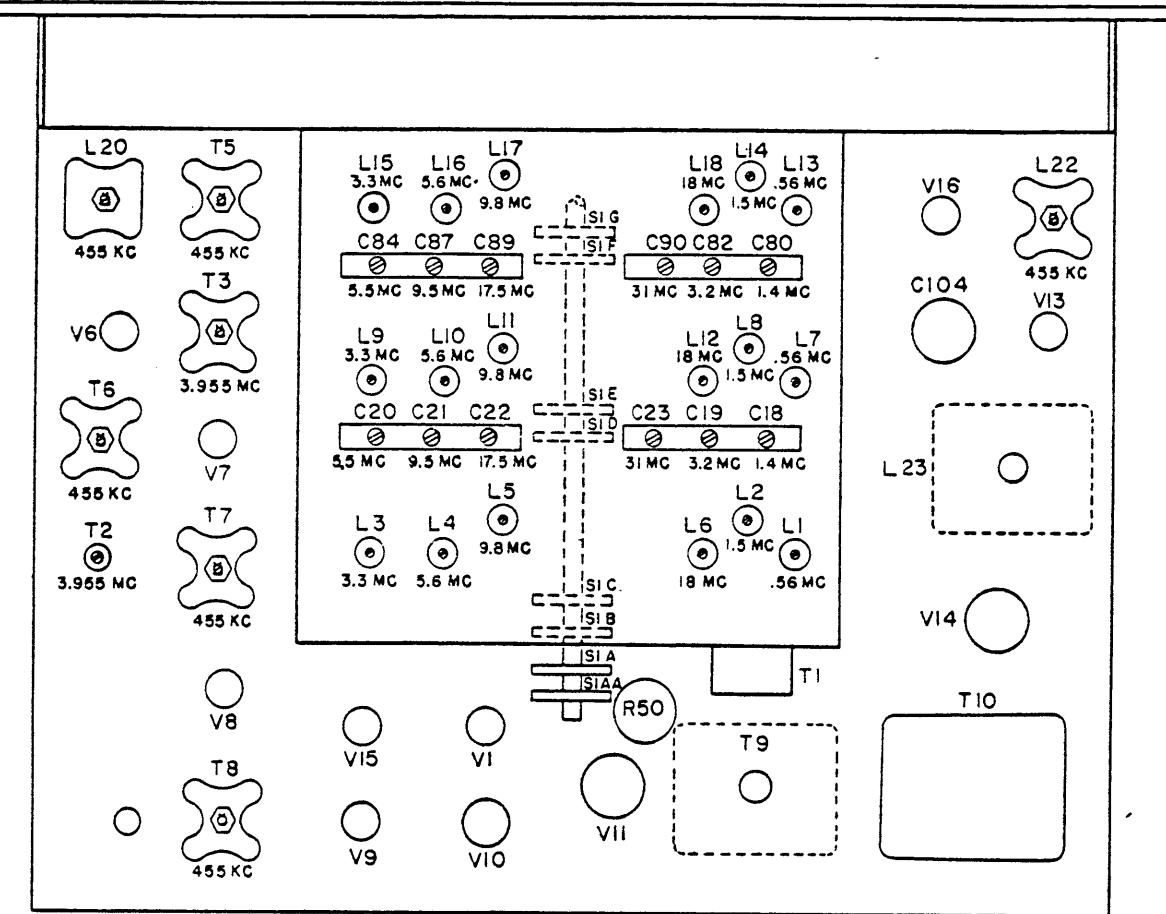

Figure 4-4. Receiver Chassis, Bottom View
- c. Plug headphones into PHONES jack and adjust coil L22 (Figure 4-4) for zero beat.
4-20 In aligning the r-f section of the receiver, the lowest frequency band is aligned first, followed by the next higher band, and so forth. The location of each part adjusted during r-f alignment, as well as the frequency band covered by that adjustment, is shown in Figure 4-4.